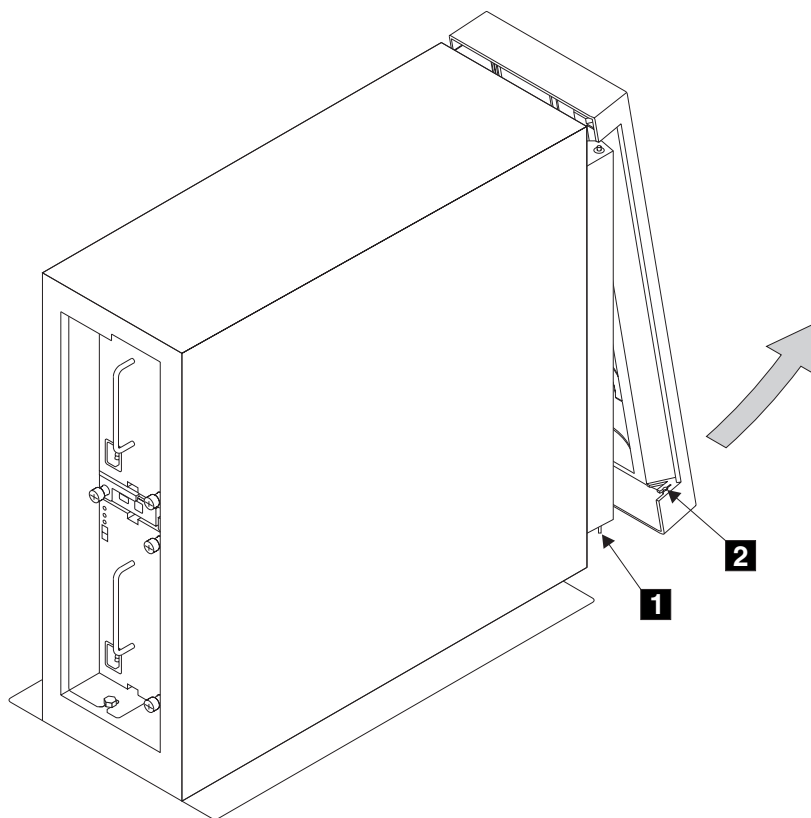

Figure 20. Removing the Front Cover of a 2104 Model TL1 (1)
- Step 5. If you want to remove the cover, refer to Figure 20 on page 55.